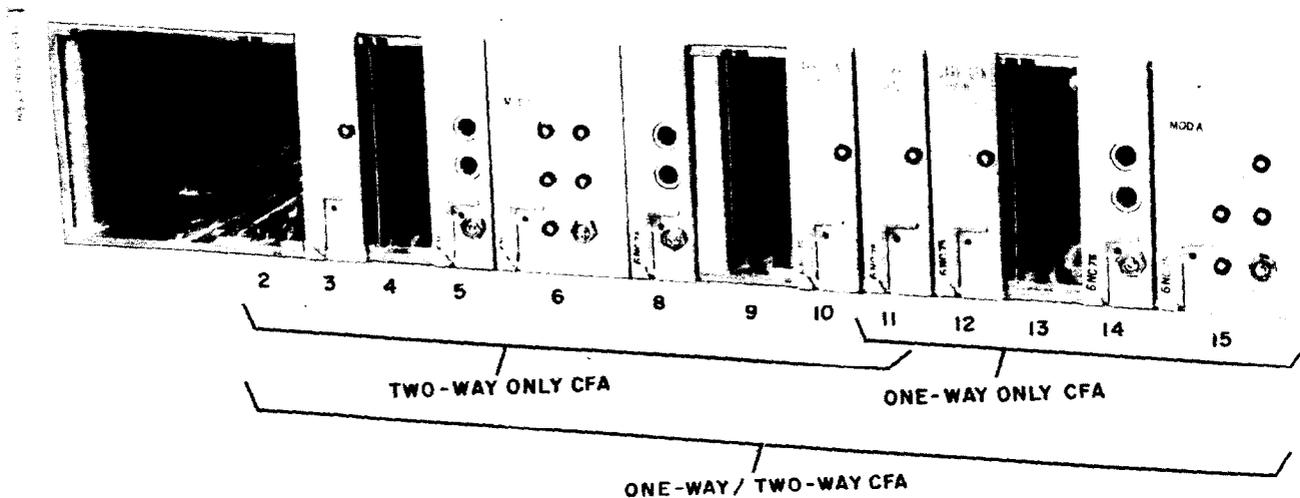

Fig. 5—A6 CFA Carrier Supply Arrangement—J68929() Bays and J98626() Frames
1.10 The CFA carrier supply (Fig. 5) is provided in the A6 channel bank bay and the A6 UTE frames on an optional basis. When used in the J68929() channel bank bay, the equipment consists of the following items mounted on two shelves (J68929BA and J68929BB).